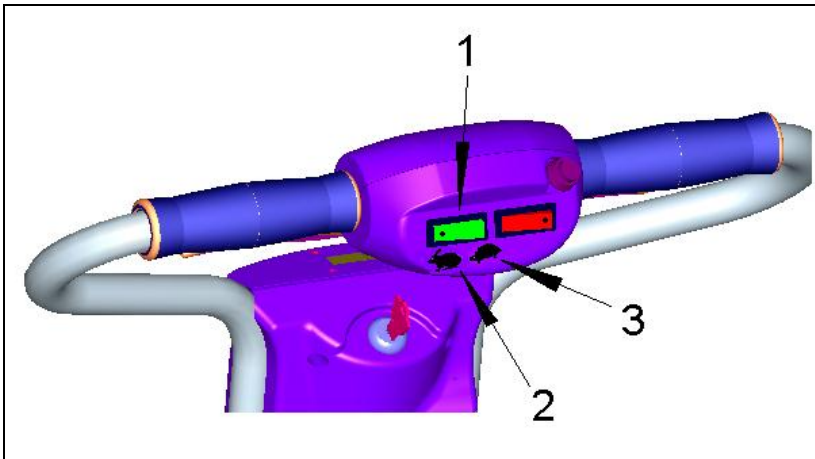

Figure 11
One way to control the speed of the Caddy is by squeezing the throttle handles: The more you squeeze, the faster you will drive. Another way to limit the speed is by means of the speed selector switch (1) see **figure 11**.
- The Caddy has two speed settings: The **high speed** setting indicated by the **hare** (2) on the speed selector switch (1) sets the Caddy to a maximum speed of **6 km/h (4 mph)**. If the switch is in this position the green light should light up. see **figure 11**.
- The **slow speed** setting indicated by the **turtle** (3) on the speed selector switch, sets the Caddy to a maximum speed of **4 km/h (2.5 mph)**. In this position the green light on the switch is OFF. See **figure11**.